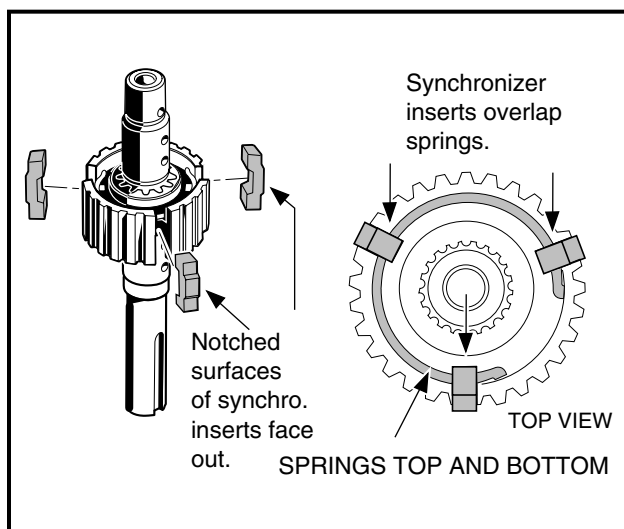

Figure 5-28 Synchronizer Inserts
- 1.3. Install the three synchronizer inserts (48) into the slots in the sleeve (**Figure 5-11, Page 5-7**). Make sure the notched surfaces of the inserts are facing outward (**Figure 5-28, Page 5-17**).
- 2.3. Install the three synchronizer inserts (48) into the slots in the sleeve (**Figure 5-12, Page 5-8**). Make sure the notched surfaces of the inserts are facing outward (**Figure 5-28, Page 5-17**).